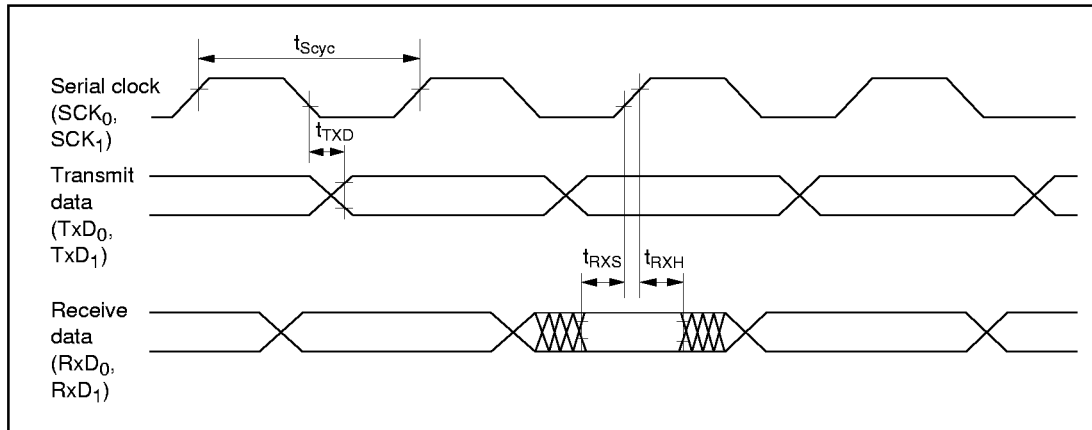

Figure 22-16 SCI Input/Output Timing (Synchronous Mode)
22.3.6 SCI Timing	Figures 22-16 to 22-17